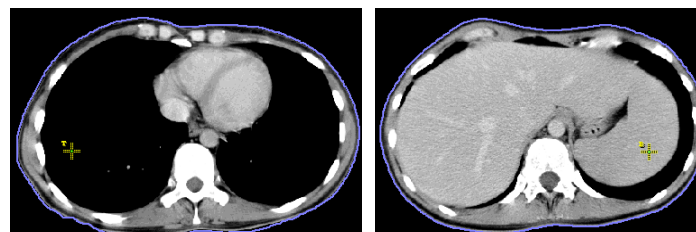

Figure 262 – Defining the top point and bottom point of the bolus
- The top point and the bottom point (the cursor is marked as **T** and **B** respectively) can be selected in any image in the current view. It is not necessary that these points are located on the contour line but simply in a view displaying the same image series (see Figure 262). The cursor will not be displayed as a green tick for **T** and **B**.